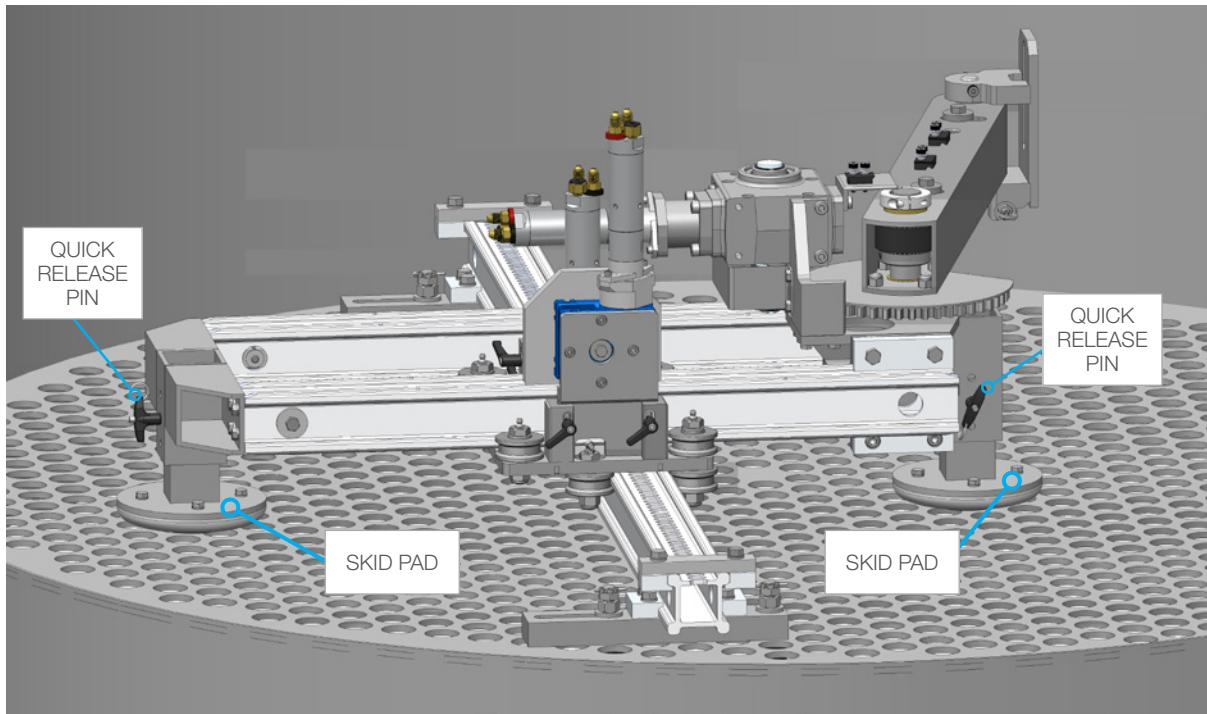

FIGURE 43
15. Pull out the Quick Release Pins on both Skid Pads and let them drop down until they hit the tube face. Lock the Quick Release Pins when the Skid Pads are in place. (**Figure 43**)